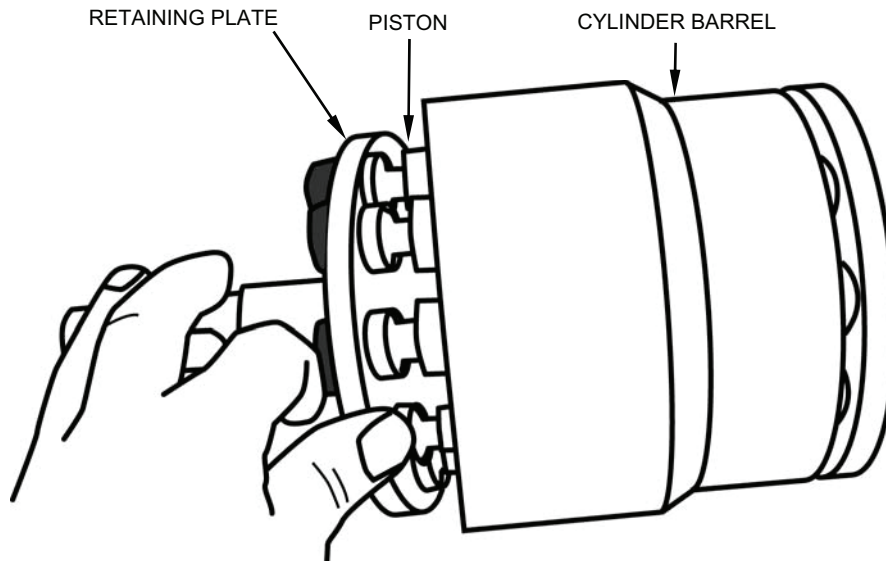

Figure 26. Removing Retaining Plate and Pistons from Cylinder Barrel.
- o. Tilt the barrel down at the shaft end and slide the retaining plate and pistons out of the barrel (see Figure 26).